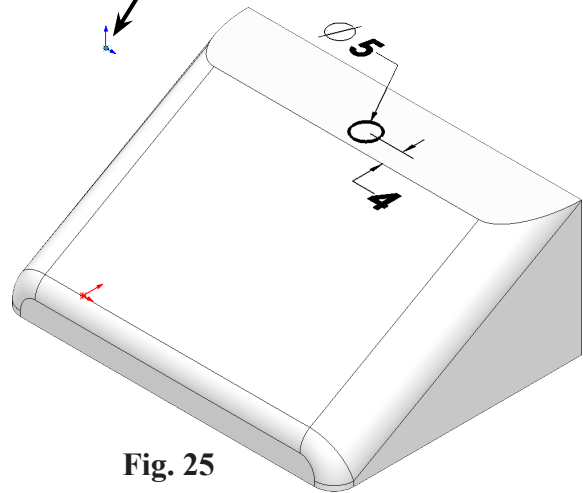

Fig. 25
Step 7. Click **Smart Dimension**  (S) on the Sketch toolbar.
Step 8. Add dimensions, **Fig. 25**.